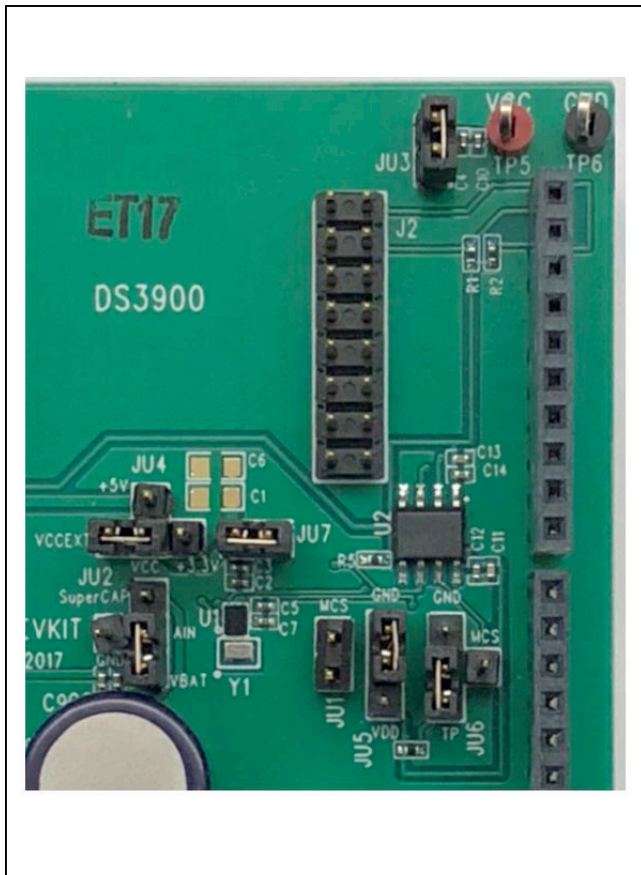

Figure 1. Jumpers Position
- 2) Set the jumpers of JU2, JU3, JU4, JU5, JU6, and JU7, as shown on (Figure 1). Leave JU1 open.